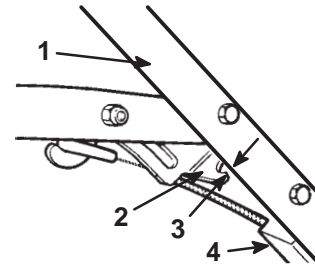

Figure 35
- A. Loosen the nut on the cable bracket (Fig. 35).